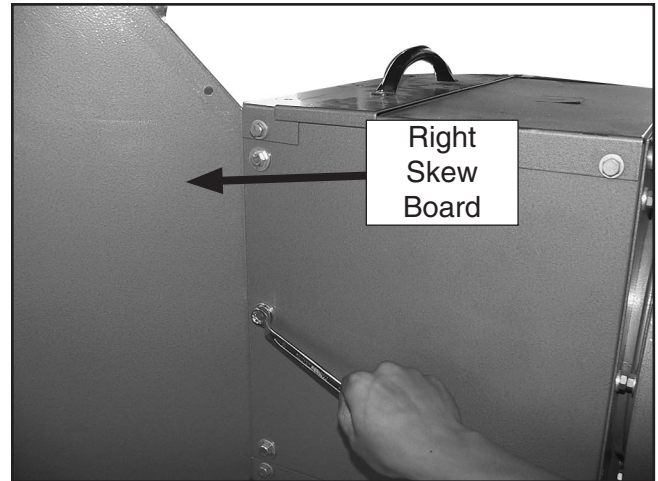

Figure 7. Installing right skew board.
1. Secure the right skew board (**Figure 7**) to the exhaust fan with three $\frac{5}{16}$ "-18 x $\frac{3}{4}$ " hex bolts, six flat washers, and three hex nuts.